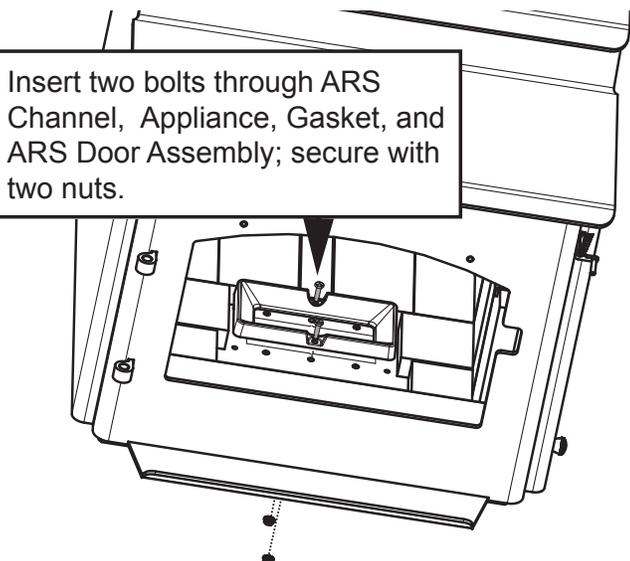

Figure 21.3
11. Using two bolts and two flange nuts to secure ARS channel using 3/8 open end wrench and 7/16 socket wrench (**Figure 21.3 on page 21**).